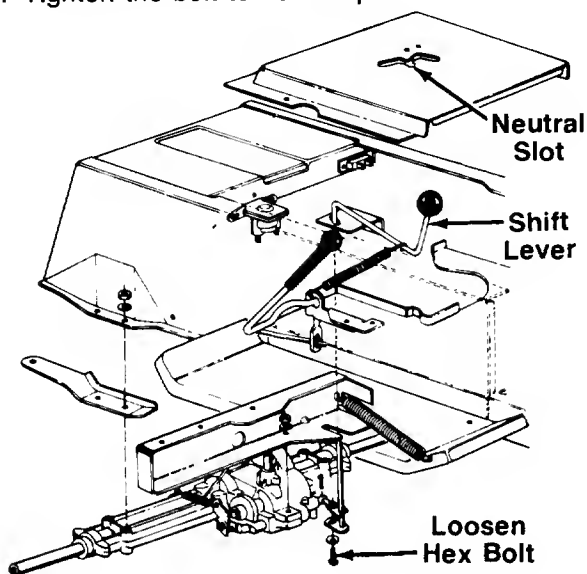

FIGURE 19.
2. Loosen the bolt which secures the shift lever assembly to the shift lever link. See figure 19.
3. Place the shift lever in the neutral slot. See figure 19.